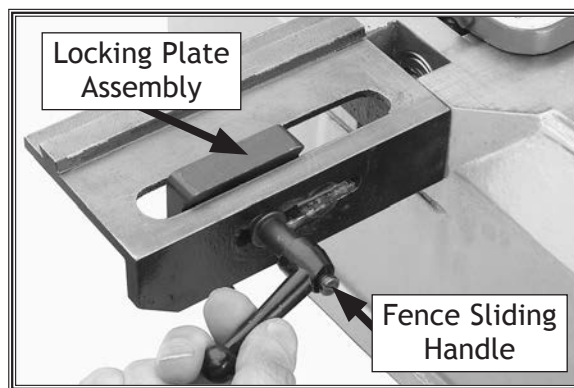

Figure 11. Installing fence sliding handle.
4. Secure the locking plate in position with the fence sliding handle, as shown in **Figure 11**.